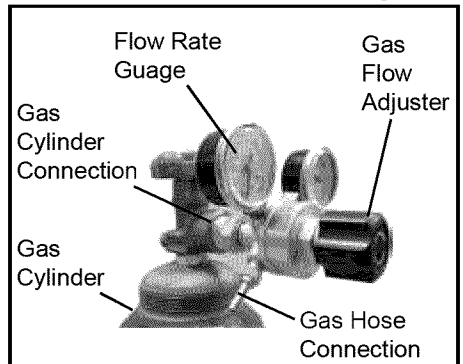

Fig. 9
2. Connect the other end of the gas hose to the gas hose connection on the supplied regulator/flow gauge (Fig 9).
5. Turn the Gas Flow Adjuster on the regulator so that the gas flow rate is set at approximately 20 CFM on the flow rate gauge (Fig 9). Make certain you are reading the correct scale on the gauge.